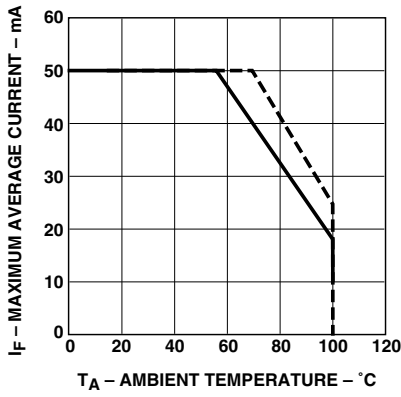

Figure 1. Maximum forward current vs. ambient temperature. Derating based on  $T_{JMAX} = 130^{\circ}C$ .
- Derate linearly as shown in Figure 1.